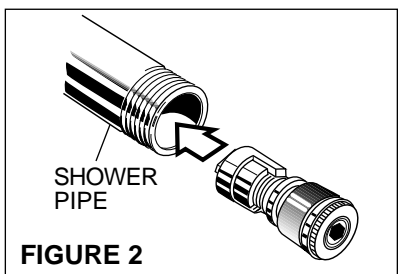

FIGURE 2
3. Note the illustration in Figure 2. If the insert will not fit, remove the ridge inside the pipe with a reamer or round file.